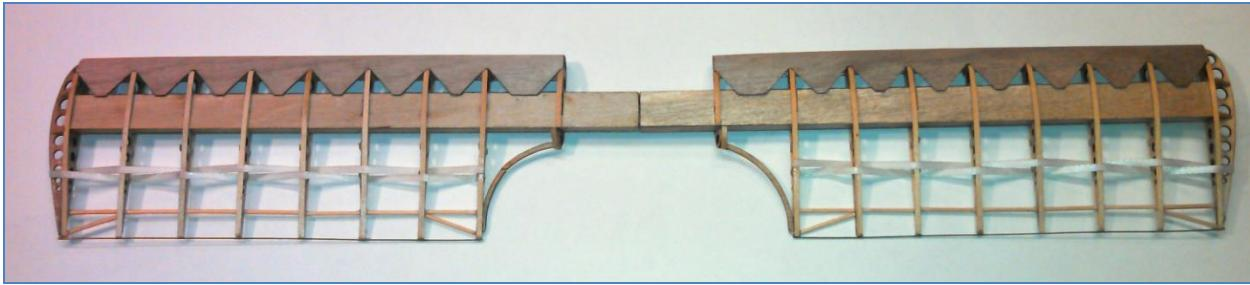

Figure 1.12 Middle Wing Completed
- The rear part of the Root Rib, WW13, is canted outward at the top to clear the Top Wing Strut (Figure 1.12).